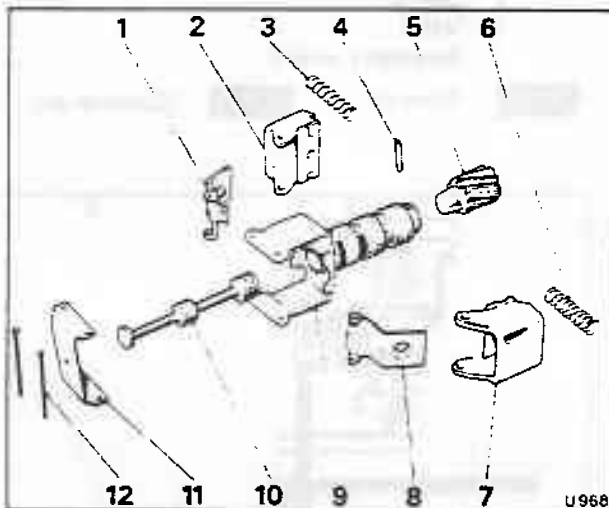

Fig. T9-4 Governor assembly — exploded
2. Remove the pins, thrust cap, governor weights, and springs (see fig. T9-4). The weights are interchangeable and need not be marked for identification.